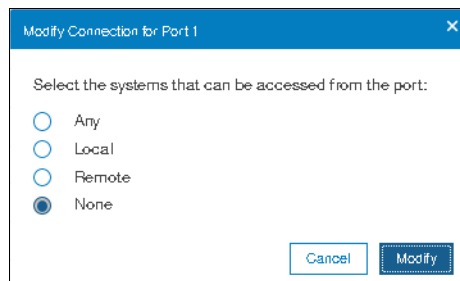

Figure 5-53 Modifying the connection for Port 1
3. To configure a port, right-click the port and select **Modify Connection**. The window that is shown in Figure 5-53 opens.